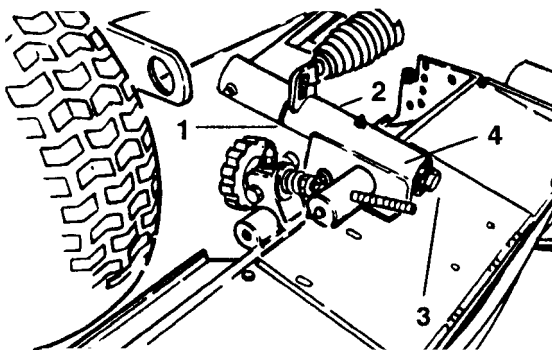

Figure 45
1. Slide a thrust washer onto the lift arm pivot rod (Fig 45).